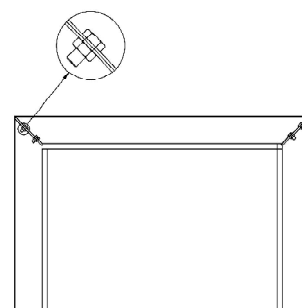

Figure 6
7. Attach the right and left trim assembly to the upper trim assembly with Hex screws and hex nuts. (See Figure 6)